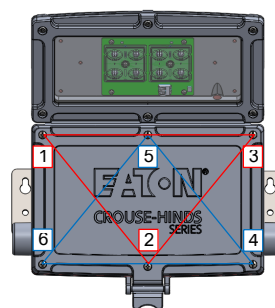

Figure 2
- Close all unused conduit entries with conduit plugs provided. To prevent galling and to ensure water tightness, lubricate conduit plugs with Eaton's Crouse-Hinds series HTL lubricant before installing, and secure wrench-tight with at least five (5) full threads engaged (42-52 ft.-lb. for 3/4" plugs)
- Follow the screw tightening pattern, see Figure 2. Tighten captive closing screw to 23 in.-lbs. (2.6 N-m). Ensure six (6) compression stoppers on driver door are in contact with housing.